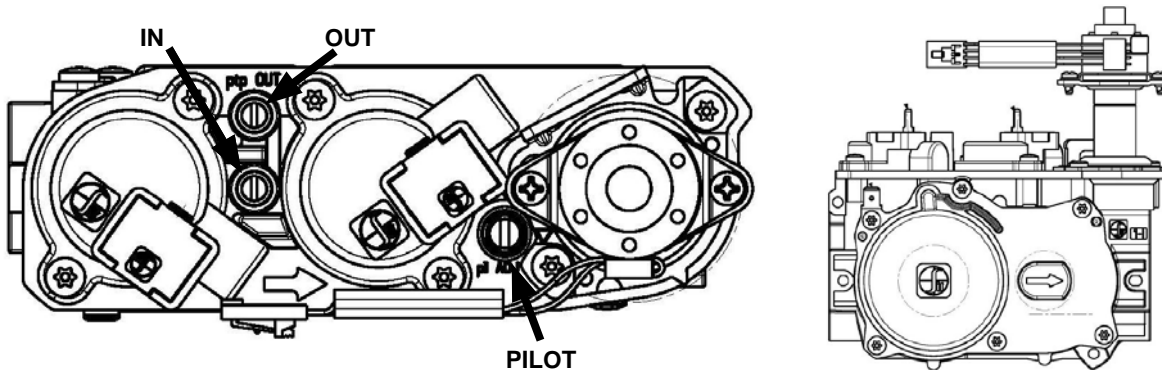

Figure 19.3.01
2. The pressure test taps are located on the valve's front face. The inlet is marked "IN" and the outlet is marked "OUT". See **Figure 19.3.01**.
The flame should not have yellow tips but should engulf the flame sensor and spark electrode. It can be adjusted by turning the screw marked "pilot" on the control valve (See **Figure 19.3.01**).